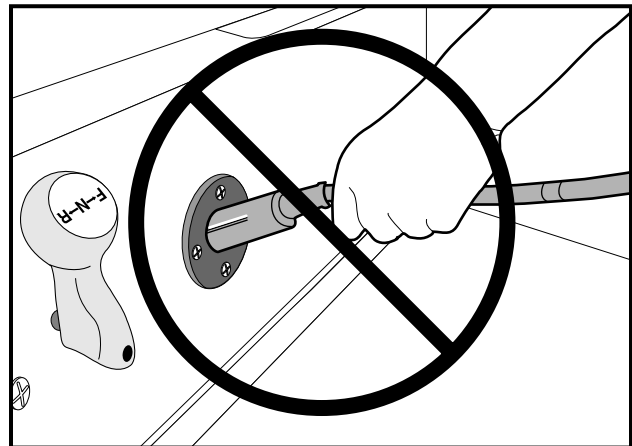

Figure 16 Incorrect Insertion of Charger DC Plug
- DO NOT PULL ON THE DC CORD (**FIGURE 16, PAGE 30**). DO NOT TWIST, ROCK OR BEND THE PLUG. TO DISCONNECT THE CHARGER PLUG FROM THE VEHICLE RECEPTACLE, GRASP THE PLUG BY THE HANDLE AND PULL THE PLUG STRAIGHT OUT OF THE RECEPTACLE.
- FAILURE TO FOLLOW THESE INSTRUCTIONS COULD RESULT IN DAMAGE TO THE CHARGER CORD, THE PLUG, AND (OR) THE VEHICLE RECEPTACLE.